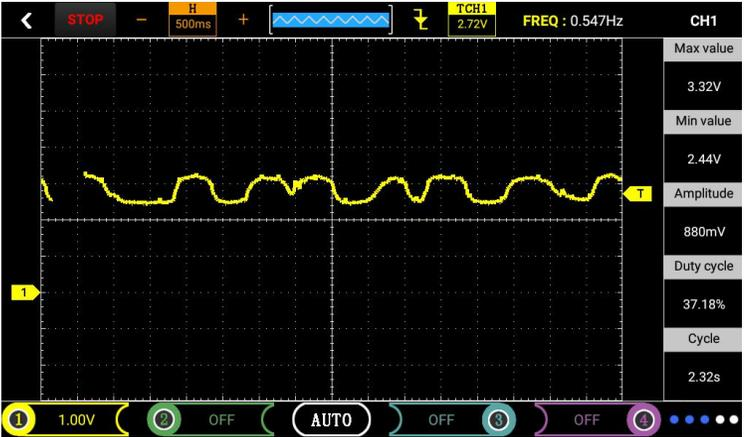

Figure 14
③ Connect the probe to the corresponding channel of the oscilloscope and set the probe in 1X position, then ground it to signal ground or ground.
④ Since the oscilloscope "zirconia oxygen" "zirconia oxygen front and rear oxygen" and "titanium oxygen" "broadband type" function has been set by default (probe block 1X, time base profile 1s), simply send the probe to the corresponding signal can be intuitive The waveform is shown in Figure 14,15.